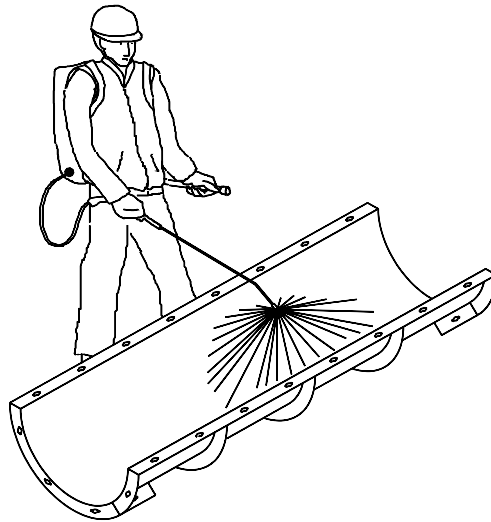

Figure 3
- ❖ Place the CLR panels with their shuttering face up, and apply release agent. (See figure 3)